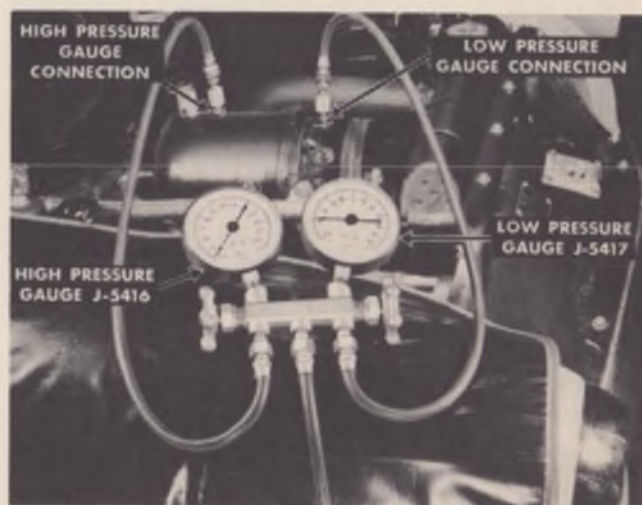

Fig. 1
2. Install the lines of the gauge set to the high and low pressure gauge connections on the compressor. See Figure 1.